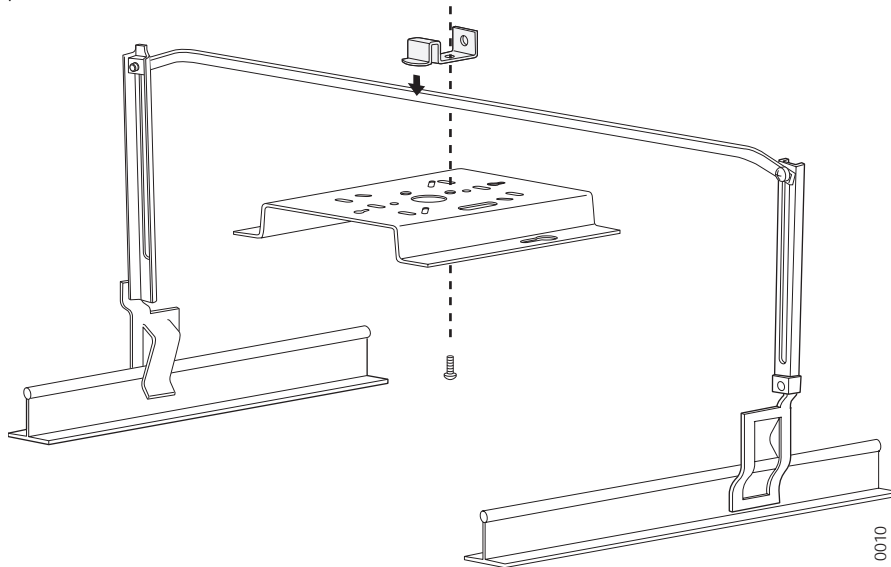

Figure 23: Attaching the Mounting Bracket to the Box Hanger
4. Attach the U-joint of the clip to the T-bar and snap in place (see Figure 23).
5. Pass the long end clip through the large center hole to the underside of the the mounting bracket clip and then attach the bracket to the clip using the supplied screw (see Figure 23 for orientation).